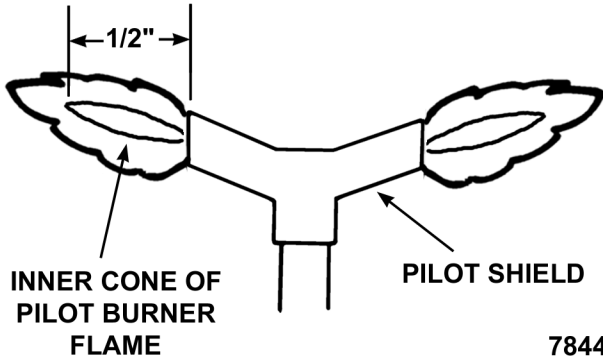

Fig. 34
- Verify flame does not extend beyond the outer edges of pilot shield  $\frac{1}{2}$ ", or extends more than  $\frac{1}{2}$ ", (Fig. 34). If adjustment is necessary continue with procedure.